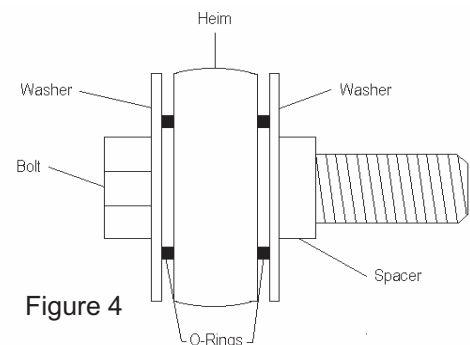

Figure 4
- Re-install the now adjustable shocks on your bike per an authorized factory manual being sure to torque all fasteners to factory specifications, and noting to install the bolts, washers, O-rings, and spacers into the heim as illustrated (see figure 4) - be careful not to pinch the O-rings. Also remember to apply blue thread-locking agent to the threads of the mounting shoulder bolts, and anti-seize to the shoulders when re-installing. Adjust preload as needed per factory manual.